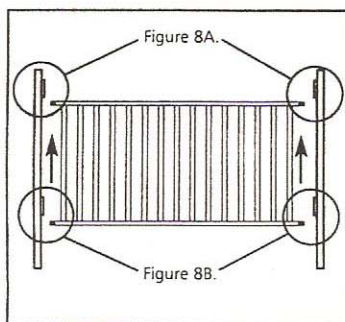

Figure 8A.
- 8** Line up the drop side with the installed rail shoes with the bracket rails as shown with in Figure 8A and Figure 8B. Make sure **F** lines up with bracket **D** and **G** lines up with bracket **C**.